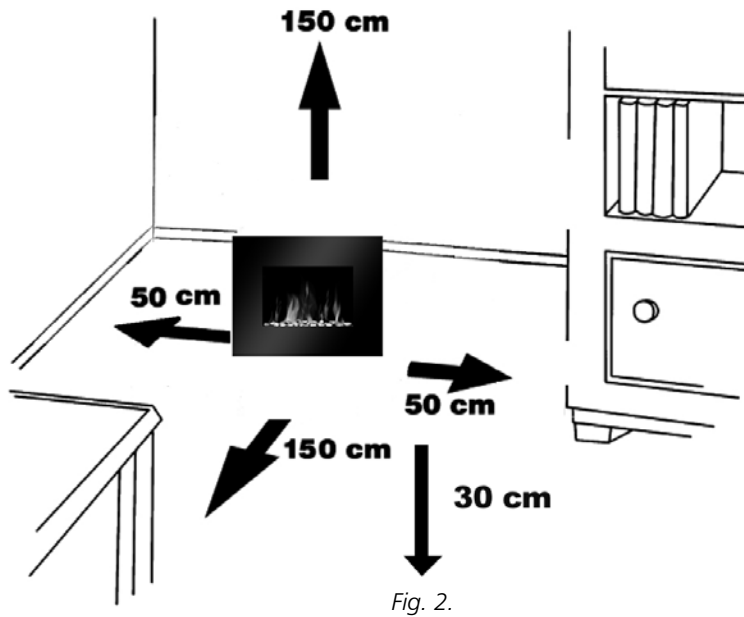

Fig. 2.
- The minimum distances must be observed (see fig 2).